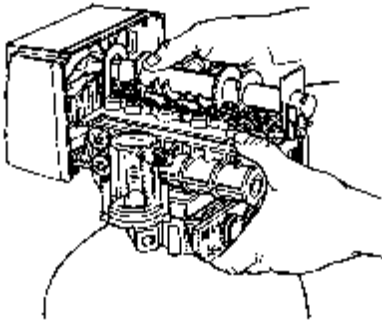

Figure 12
- Slide the camshaft back, disengage it from the timer, Figure 12.